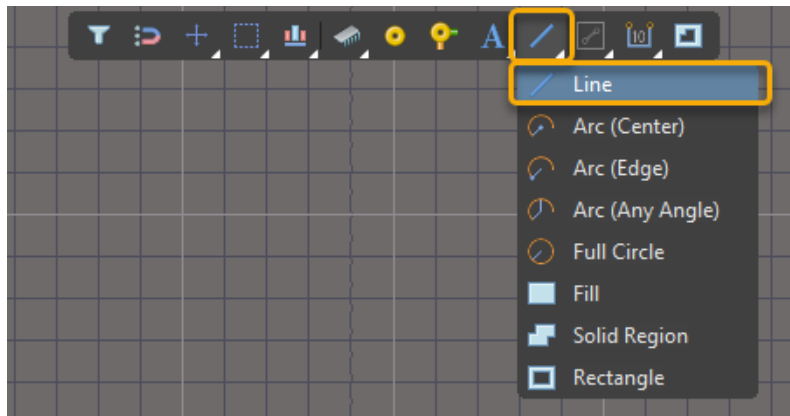

Figure 40. Placing a Line
61. Right-click on the **Graphical Place** menu in the **Active Bar**, and select line, as shown in Figure 40. Alternatively, to place a line go to the **Place » Line (P » L)** command.